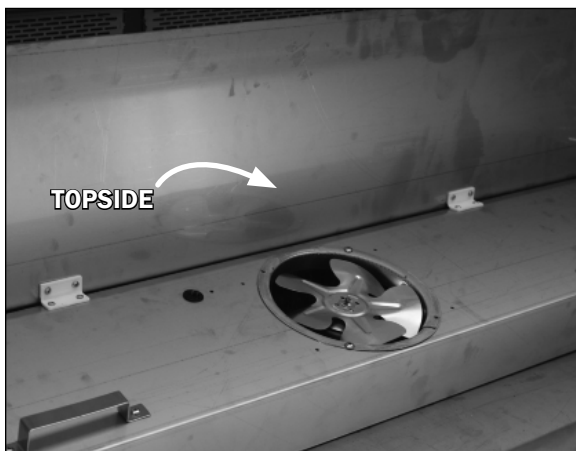

Fig. 13 Coil cover (topside)
3. Carefully, without bending the sheet metal cover, lift from the back end of panel, and rest the topside of coil cover on pressure plate handles (Fig. 13 & 14).